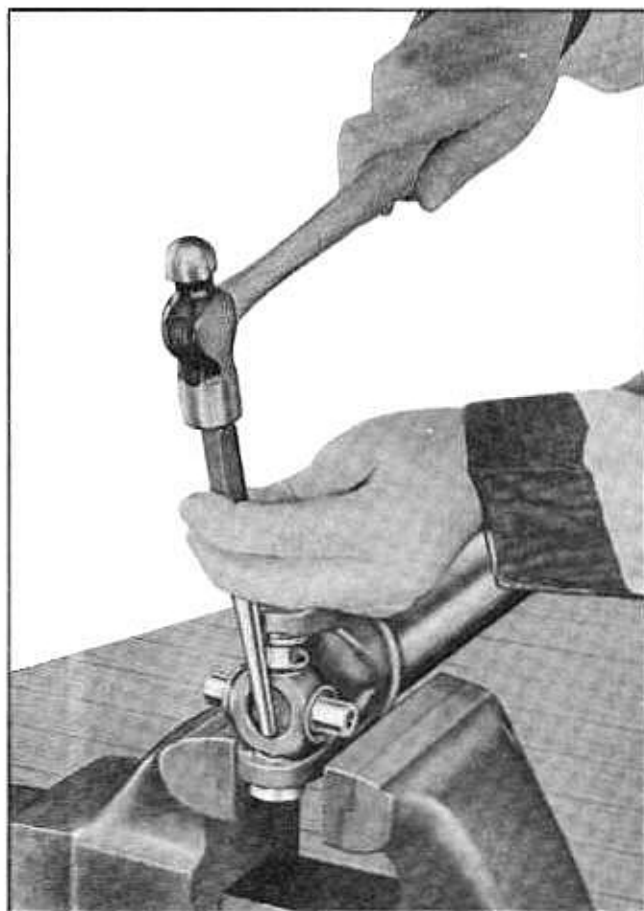

Fig. 4-50 Removing Bearing From Fixed Yoke Member
a. With yoke member clamped or supported in vise, drive bearing out as far as possible using drift applied to center part of journal (Fig. 4-50).